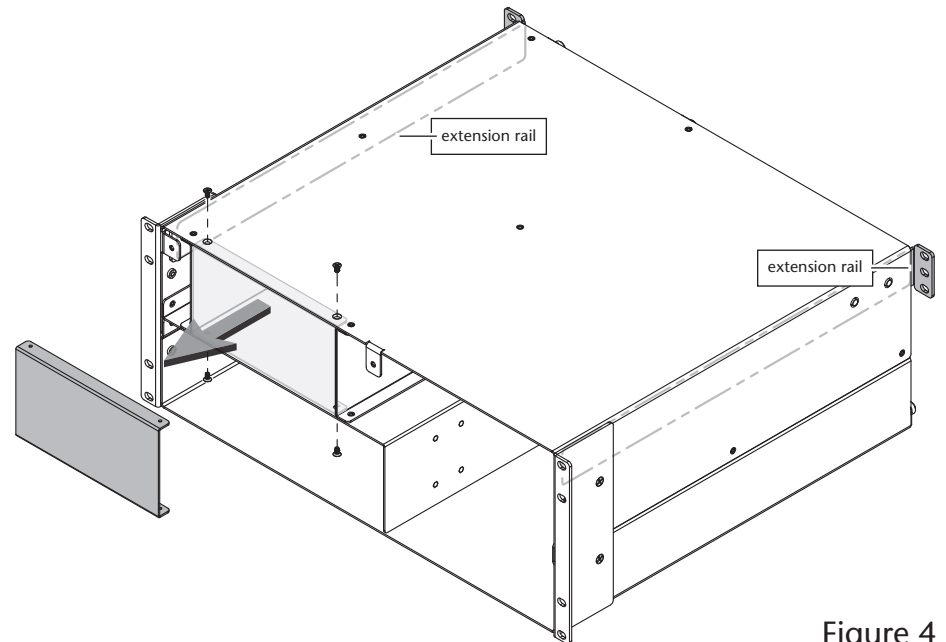

Figure 4
5. **OPTIONAL STEP:** If you are installing an optional Sonnet Mobile Rack Device Mounting Kit or Twin 10G dual-port copper 10GBase-T 10 Gigabit Ethernet Thunderbolt 2 adapter, use a Phillips screwdriver to remove the four screws securing the blank plate inside the enclosure, and then remove and set aside the blank plate. (**Figure 4**).